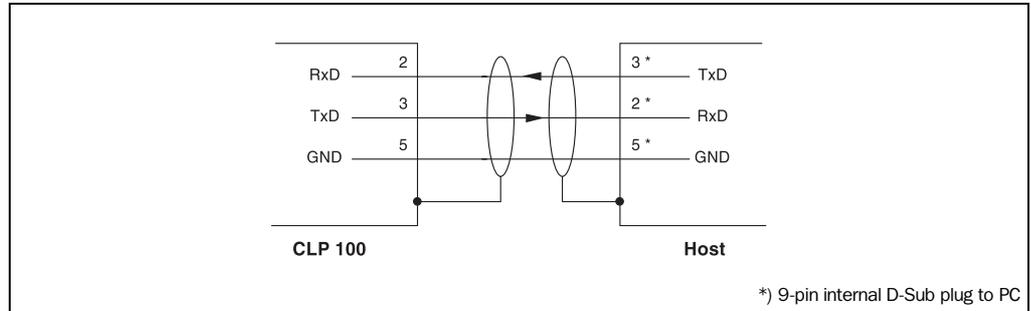

Fig. 5-1: Wiring the host interface
Figure 5-1 shows the wiring of the RS-232 host interface.
- Wire the host interface correctly in accordance with *Figure 5-1*.
- Connect the host interface of the CLP 100 EMC-compatibly to the host by means of shielded cables (*refer to Figure 5-1*). Observe the maximum cable lengths (*refer to Table 5-3, Page 16*).